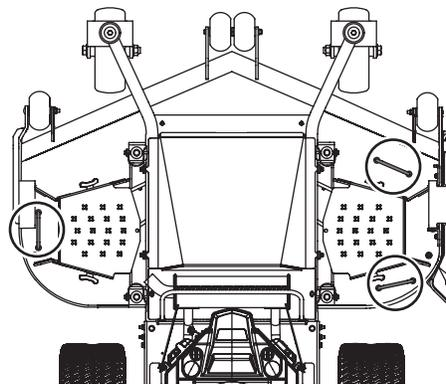
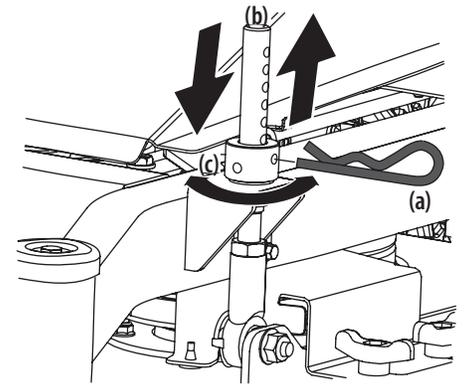

Figure 3-2
Figure 3-3
1. Securely grasp one of the three handles on the deck (see Figure 3-2 for location) and lift slightly to remove the cotter pin (a). See Figure 3-3.